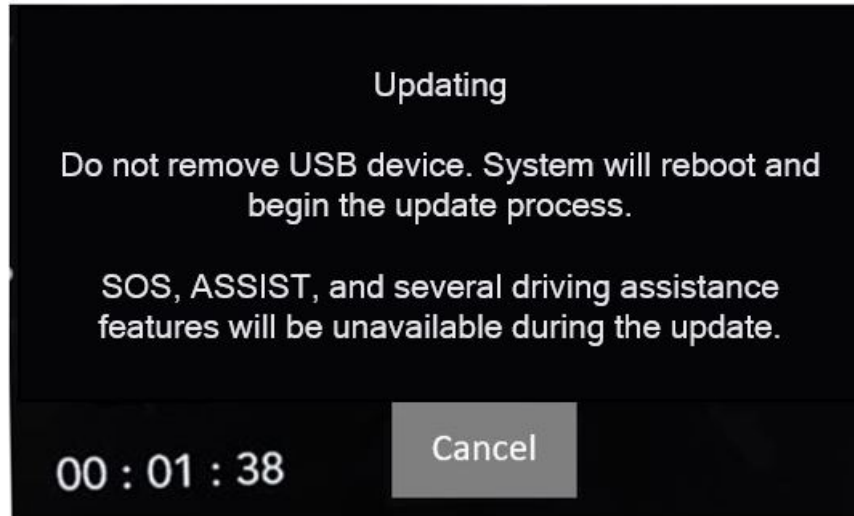

Fig. 7
NOTE: If the ignition is turned off before the two minutes has expired, the software update will be canceled. The ignition does not have to be turned off to perform this updated. (Fig. 7) .
13. When the radio starts updating, the screen in (Fig. 7) will be displayed.